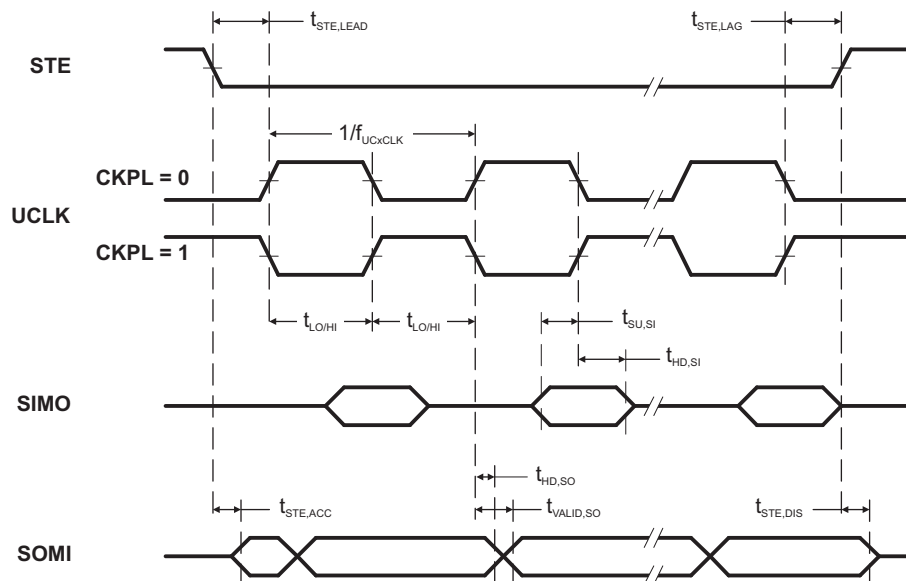

Figure 19. SPI Slave Mode, CKPH = 0
over recommended ranges of supply voltage and operating free-air temperature (unless otherwise noted)(1) Figure 19 Figure 20